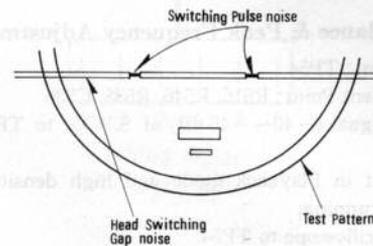

Fig. 22
- \* Adjustment Point: P.G. Coil, Screw ⑤
3. Adjust screw ⑤ so that the head switching gap noise becomes minimum as shown in Fig. 22.